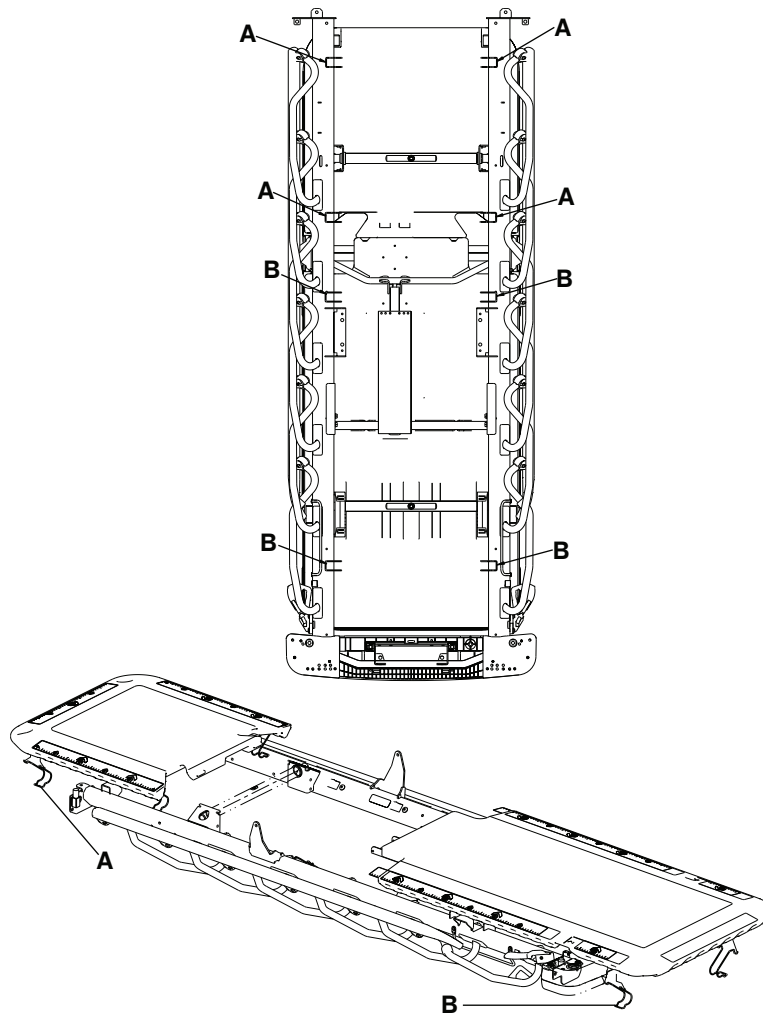

Figure 60 – Remove the head end and foot end X-ray cassette panels
7. Unclip the four spring clips (A) (below the litter frame) that secure the head end X-ray cassette panel to the litter frame (Figure 60).